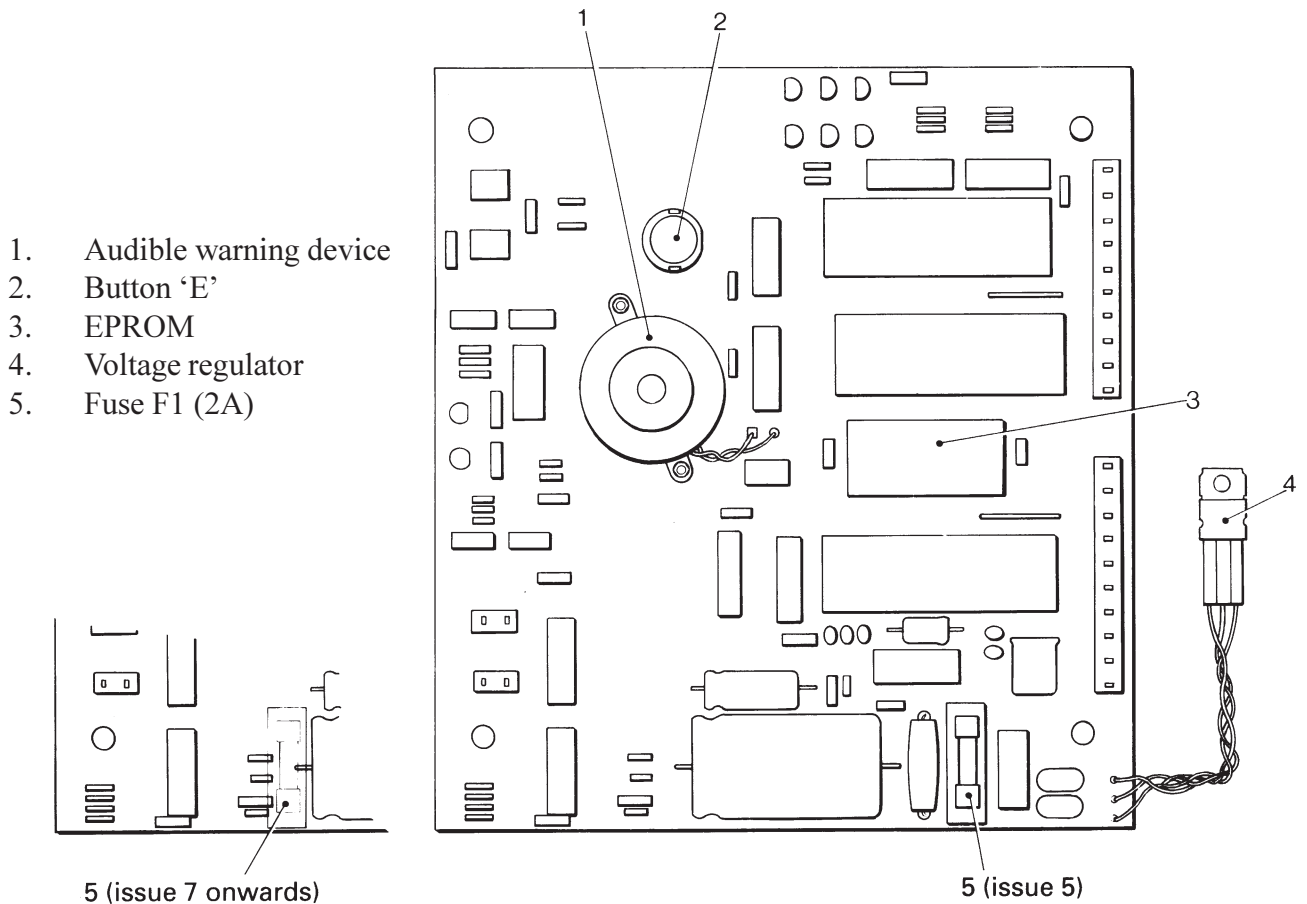

Fig. 5 Controller board (see also Fig. 4 items 15 and 16 for reverse side of board)
29. The controller board carries a fourth fuse (Fig. 5 item 5), to protect the secondary circuit of the transformer and parts of the controllers. To gain access to this fuse, remove the cabinet top cover (para 26). Refer to Technical Data for fuse type and rating.
VOLTAGE REGULATOR (Fig. 5 item 4)
- (1) Switch off the power switch.
- (2) With cover removed, push and hold in button E (Fig. 5 item 2)
- (3) With button E held in, switch on power again.
- (4) The display ‘set up’ will appear and a long ‘bleep’ will sound.